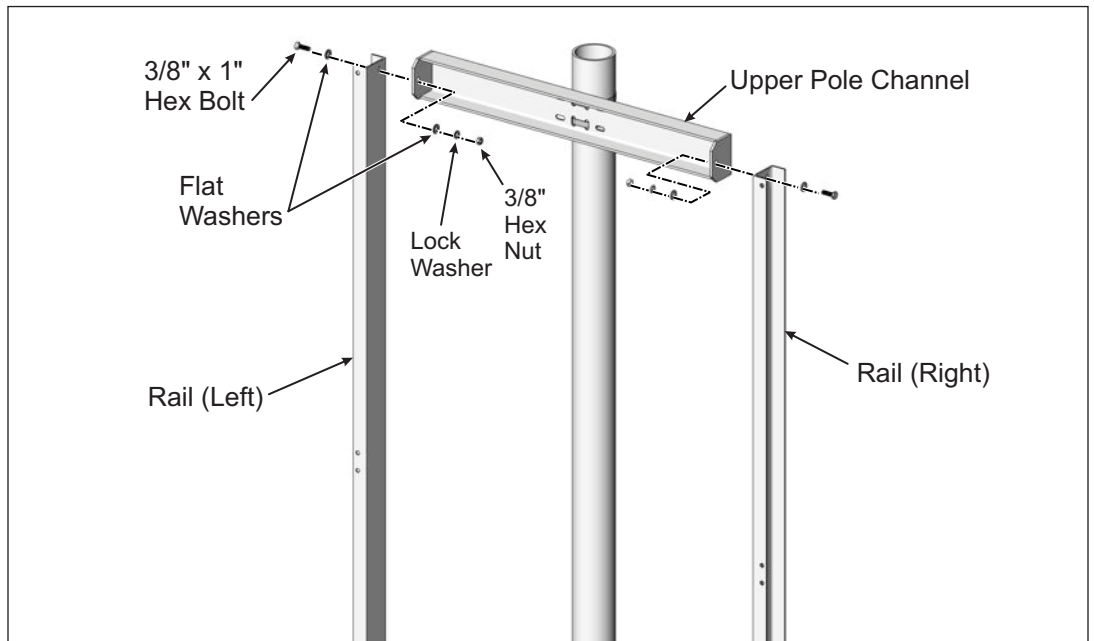

Figure 3-1: Attaching Rails to Pole Channel
The two Module Rails are attached to the ends of the upper Pole Channel using 3/8" x 1" hex bolts and hardware. (See Figure 3-1)
- A. Orient and align the left Module Rail as shown in Figure 3-1. Secure with one 3/8" x 1" hex bolt, lock washer, flat washers and Hex Nut. Finger tighten for now.